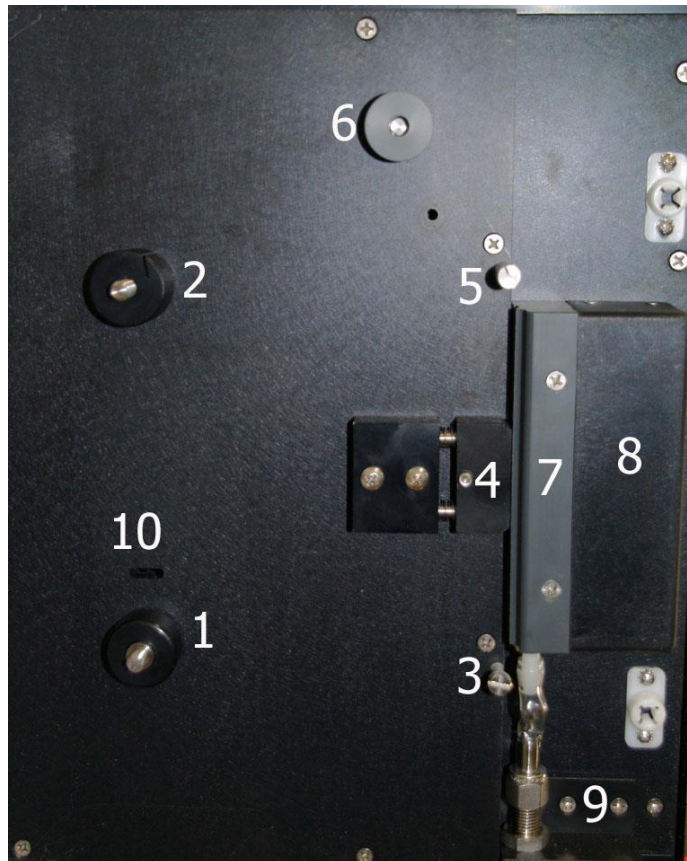

Figure 7-2: Tape Enclosure Parts Reference
- d) Remove the tape cover from the left side of the chassis to view the tape enclosure. Figure 7-2 presents the open enclosure with various components identified.
- e) Remove the screw-on disks (not shown) from the supply reel (1) and take-up reel (2).
- g) Thread the tape over the lower sample chamber guide pin (3). Push the compression head (4) back and slide the tape behind the compression head. Ensure that the tape is flat against the groove in the sample chamber (8) and has no creases.